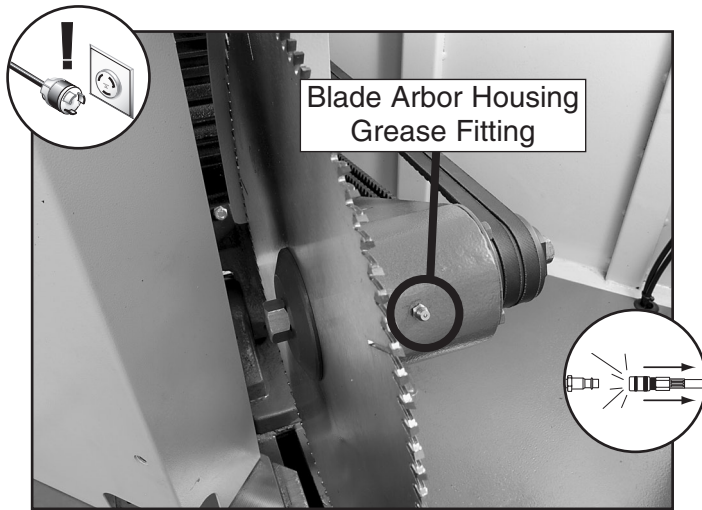

Figure 36. Blade arbor housing grease fitting (left side shown).
3. Raise the front guard up, remove the inner blade guard and blades to access the pivot arm assemblies (see **Figure 36**).